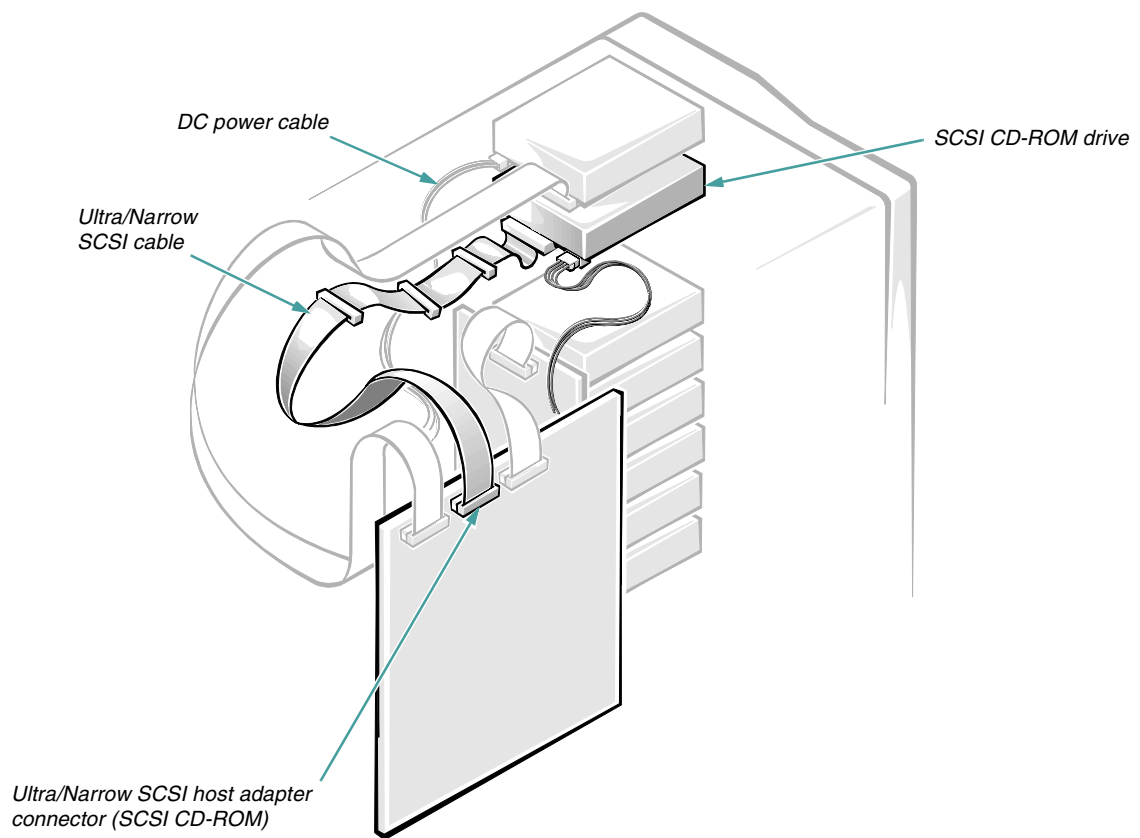

Figure 9-7. Cable Connections for a SCSI Device in the External Drive Bays
4. Connect a DC power cable and one of the connectors on the Ultra/Narrow SCSI cable to the back of the drive (see Figure 9-7).